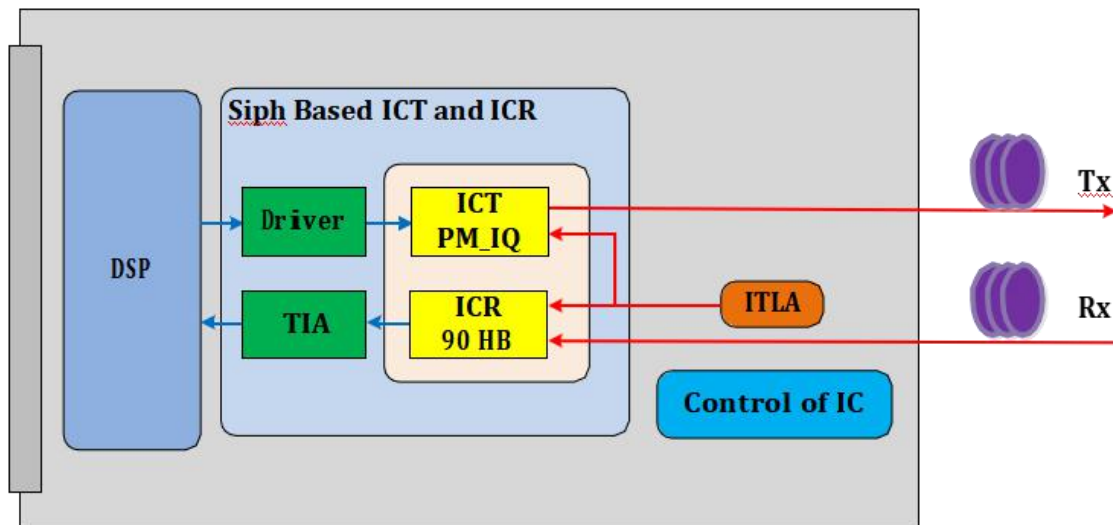

Figure 1. Transceiver Block Diagram
The application field of the module is widely used from short haul (ZR) to Metro(MR) interconnects. As shown in figure1, it is comprised of high-data lanes, a single 3.3V power supply, an IIC interface for module control and status report, and dedicated alarm and control pins (not shown on the figure1).